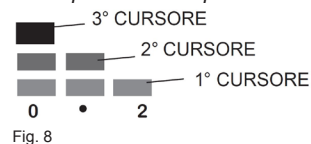

Fig. 8
-Each **COLUMN** is made up of three temperature **CURSORS** (Fig. 8):